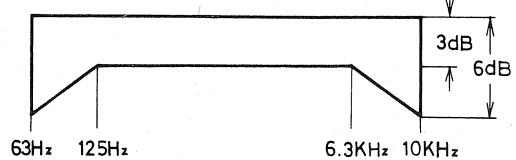

Fig. 21
3. Play the third band (6.3kHz) of test tape, adjust VR201 (L channel) and VR301 (R) for an output reading of 230mV (-10dB).
5. Fig. 21 shows specified playback frequency response.